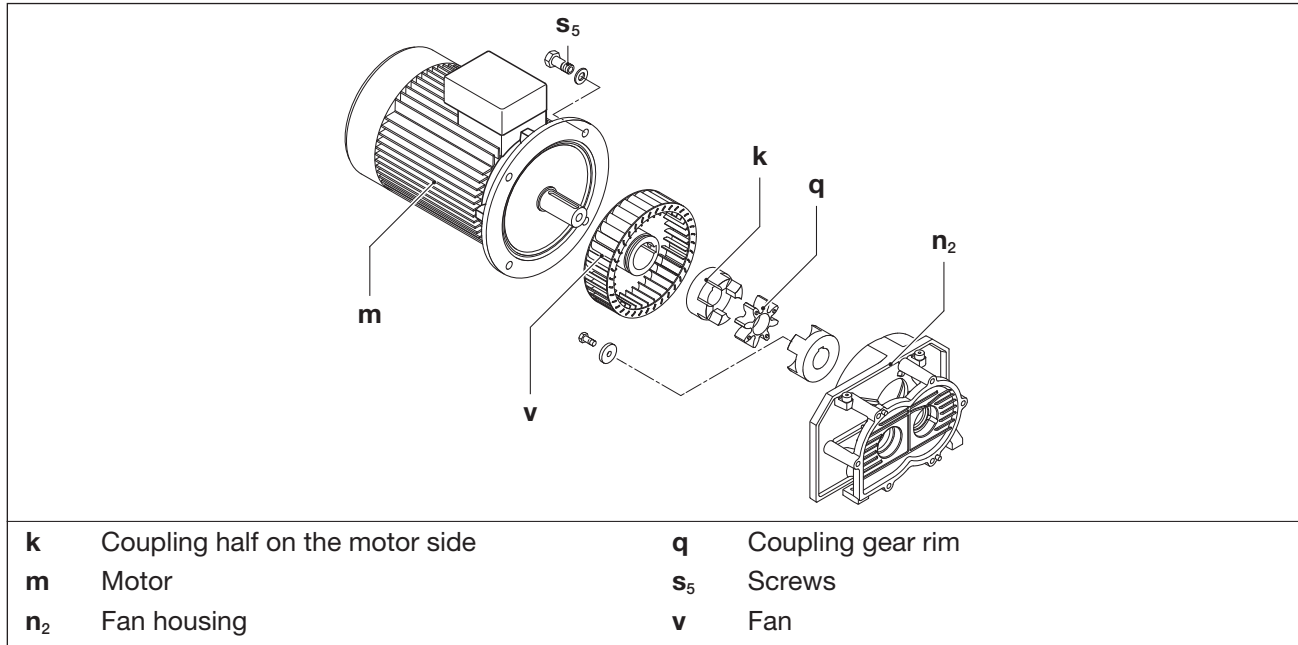

Fig. 9 Coupling
The clutch spider (Fig. 9/q) is subject to wear and must be checked regularly (at least once a year). The fan (Fig. 9/v) should also be checked for damage from time to time.
- Hook the motor (Fig. 9/m) in the eyebolts and lift it by means of lifting gear. If no eyebolts exist, suspend the Motor with round loops.
- Release the screws (Fig. 9/s5) on the motor flange and axially pull the motor with the half of the coupling on the motor side (Fig. 9/k) off the fan housing (Fig. 9/n2).
- Check the sprocket (Fig. 9/q). If the sprocket is damaged or worn, replace it.
- Check the fan (Fig. 9/v) and replace it, if necessary.
- Axially push on the gear rim and motor with coupling half on the motor side again and fix to the motor flange using the screws (Fig. 9/s5). Tightening torque: 120 Nm